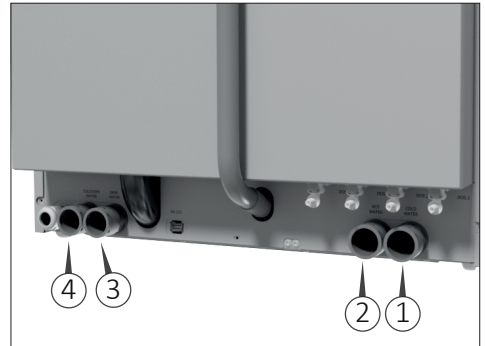

Fig. 7
- Make sure to connect the water flexible hoses in the positions shown in figure 7.
- Connect the water flexible hose to connections shown in figure 7.
Water connections (Fig. 7)
- 1) Connect the machine to water connections (Fig. 7).